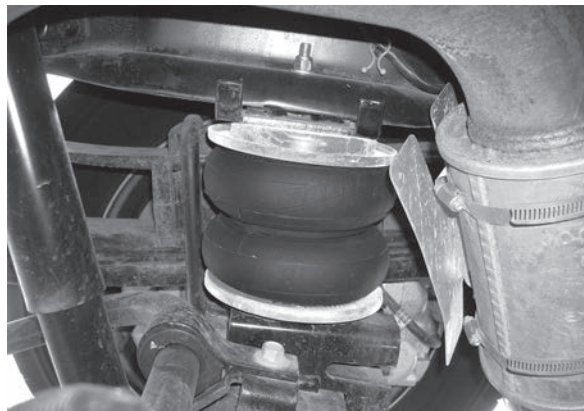

fig. 33
2. Figure 33 shows the inside, above axle view of the right (passenger) side installation.